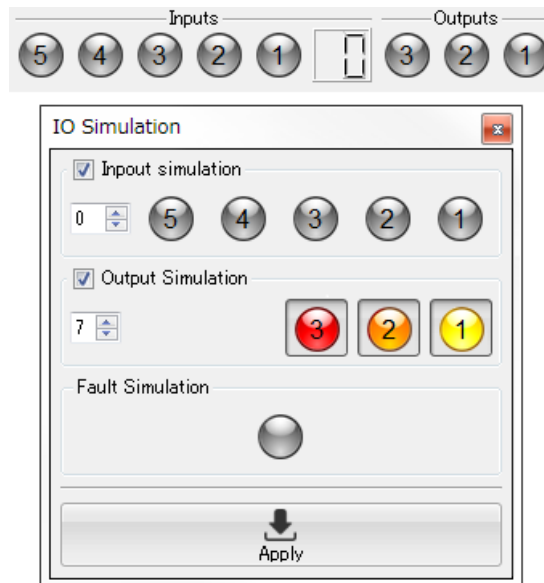

Fig 4.5-5 Display of IO lamps when IO simulation with the input value is 0
- When the input value is 0 and output value is 1 IO simulation cannot be done. It shows in Fig. 4.5-5 the display in such condition because laser is off in Area 0. During a laser off state, area configuration cannot be configured and detection determination is not possible either.